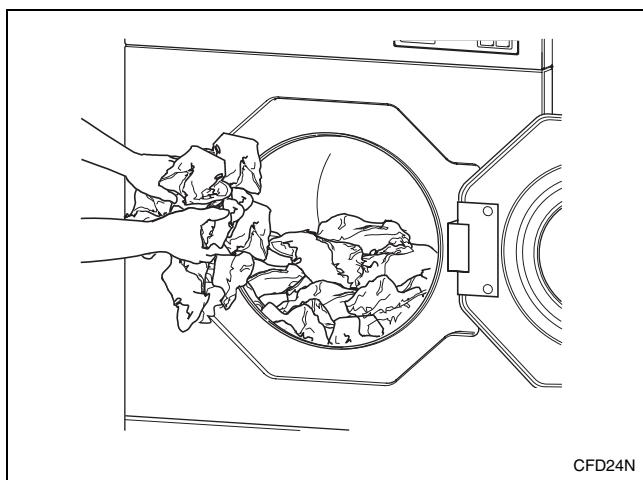

Figure 8
3. Load to capacity whenever possible. DO NOT OVERLOAD. Refer to *Figure 8*.